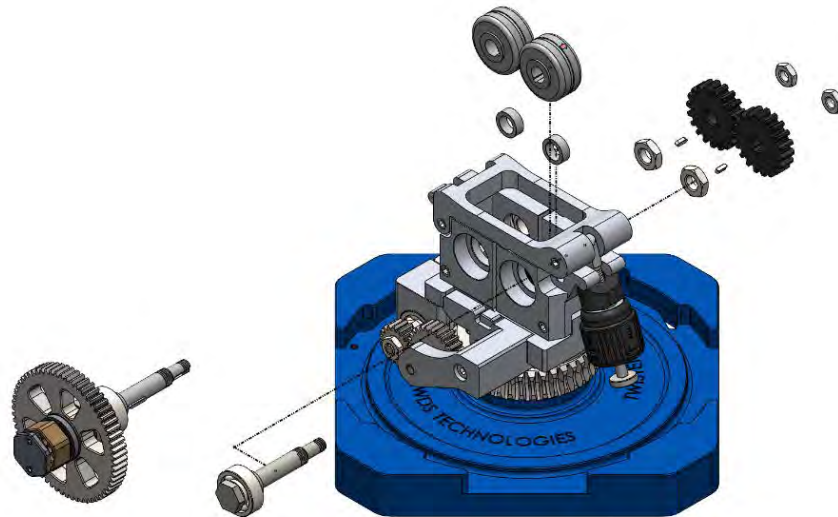

Figure 56
8. Position the spacer and the secondary contact wheel as shown in the figure, then insert the shaft taking care to keep the wheel raised, so that the shaft fits into the appropriate hole, and to position the locking tab correctly. Once the shaft has been inserted, using two 13[mm] open end wrenches, screw the M10 nut. Figures 56 and 57;